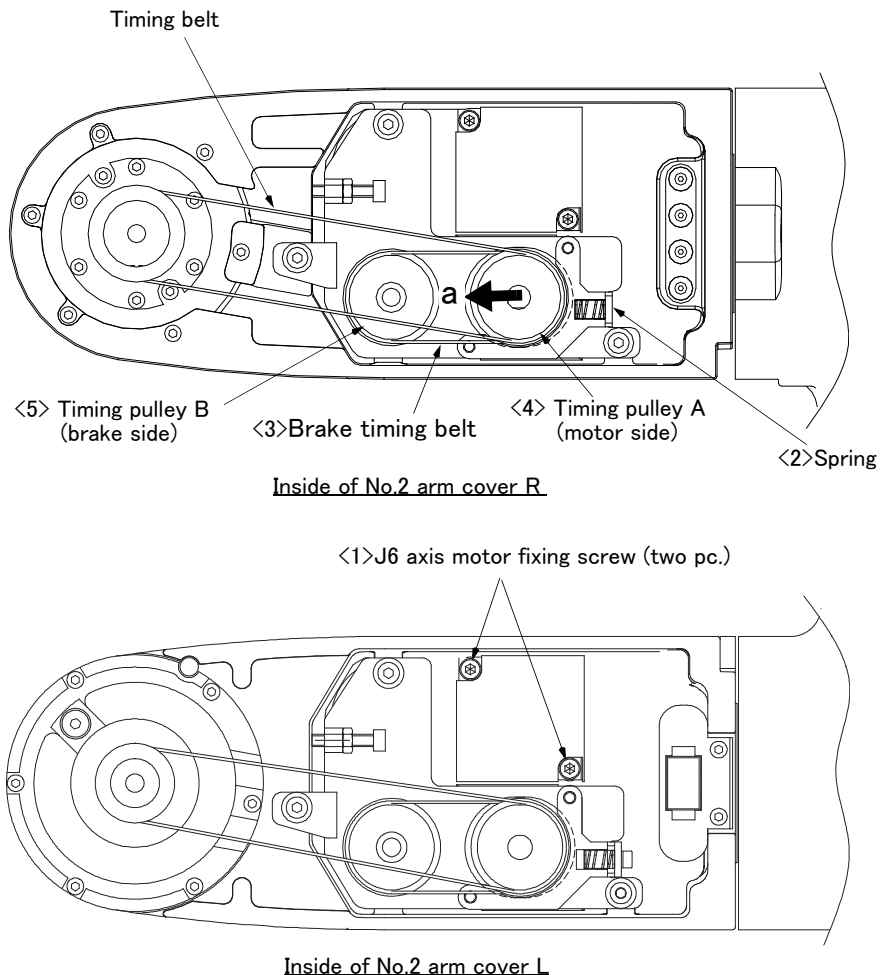

Fig.5-17 : Inspection and replacement of J6 axis brake timing belt (RV-2FRB/2FRLB)
The reference figure at inspection and replacement of the brake timing belt is shown in Fig. 5-17. To replace the J6 axis brake timing belt, remove the J6 axis timing belt. Measure the tension before removing the J6 axis timing belt, and reinstall the belt so that the tension must be the same as the one measured before removal.
- 4) Move motor side timing belt pulley <4> in the direction of the arrow "a" of Fig. 5-17 , and remove the brake timing belt.
(9) RV-4FR/7FR series: Inspection and replacement of J1-axis timing belt